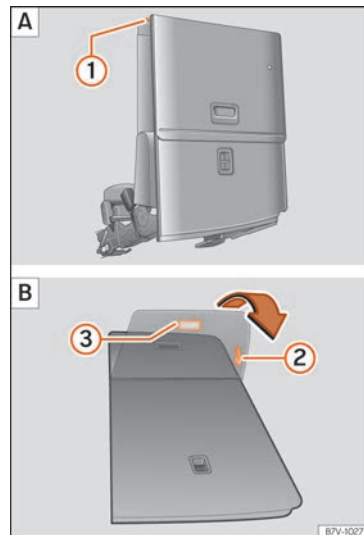

**Fig. 144** Third row of seats: folding down the rear seat for loading **A**, putting it back into place **B**.
- If necessary, pull on the lever » » » **Fig. 144** ❷ to move the seat to the required position.
- Remove objects from the footwell in front of and behind the rear seat » » » ❶.
- Pull lever » » » **Fig. 144** ❶ back and fold the seat backrest forwards. The rear seat folds forward » » » ⚠ and the cushion also moves forward.
- Pull on the handle » » » **Fig. 144** ❷ to put the seat tray back in position.
- Pull the handle » » » **Fig. 144** ❸. The entire seat folds backwards.